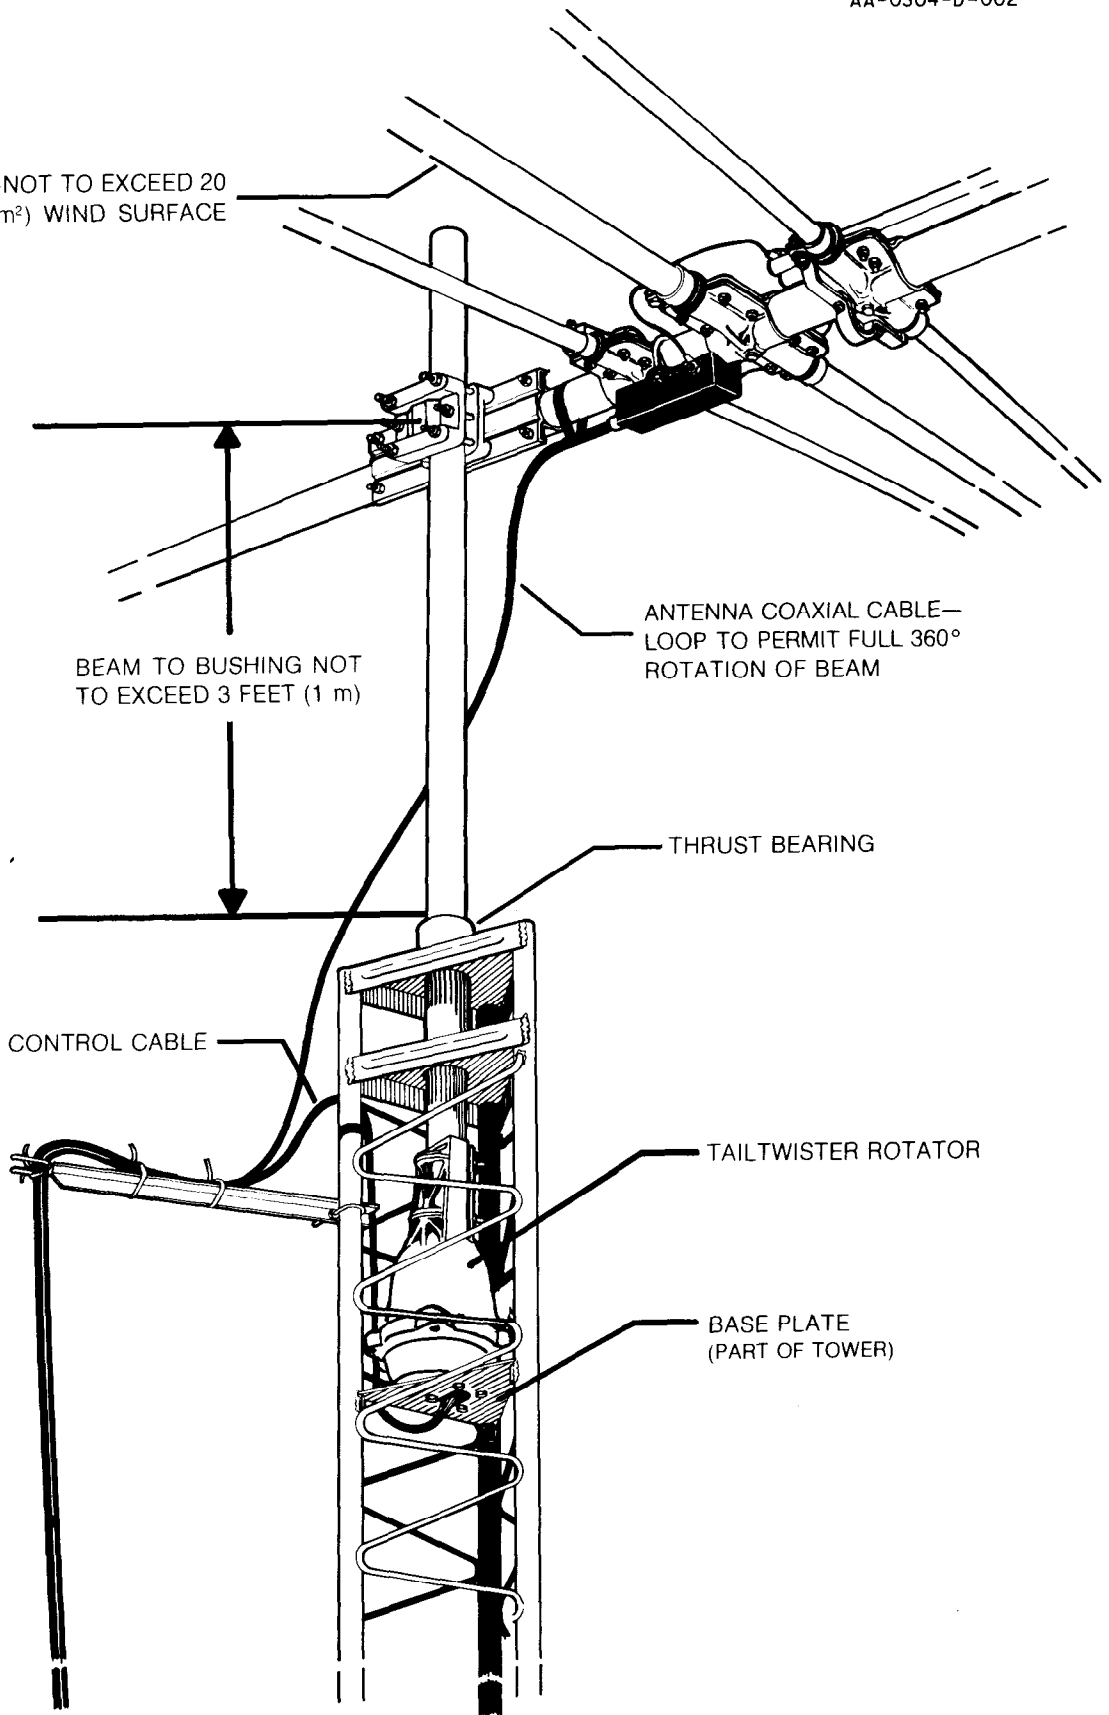

Figure 3
The Tailtwister rotator consists of an extra heavy duty rotator and control unit. The rotator is designed to be mounted on a plate inside a tower. A mast to support and turn large communications beams (see Figure 3) is then attached to the top of the rotator. However, in some instances, mast mounting is desired. The Lower Mast Support Kit, PN 51467-10, contains a lower mast support and the necessary hardware to facilitate mounting the Tailtwister rotator on top of a mast.
- G. Optional Heavy Duty Lower Mast Support Kit must be procured if the owner elects to use a Mast Mount (see Figure 7). The part number for the Lower Mast Support Kit is 51467-10. "Inside" Tower Mount (Figure 3) is recommended.
A. Tower Mounted as per Figure 3	20 square feet (1.86 m ²) of wind surface area
There are three general types of installations (see Figures 3, 6 and 7).
There are variations of mounting falling generally into one of the above categories. For example, the rotator may be mounted lower in the tower than shown in Figure 3. In that case, more than one bushing or thrust bearing for the beam mast may be required and longer coast down time allowed in operation. These factors are interrelated and the components must be matched together.
The rotator is mounted inside a tower (see Figure 3) to the flat tower plate by means of six (6) bolts furnished in the hardware kit. Use the following procedure:
9. Return the rotator to the full CW "S" position. Mount the beam pointing South. The coaxial cable should be looped as per Figure 3, in such a manner that it will not foul or tangle when the beam turns around in a circle to the full 360° counterclockwise position.